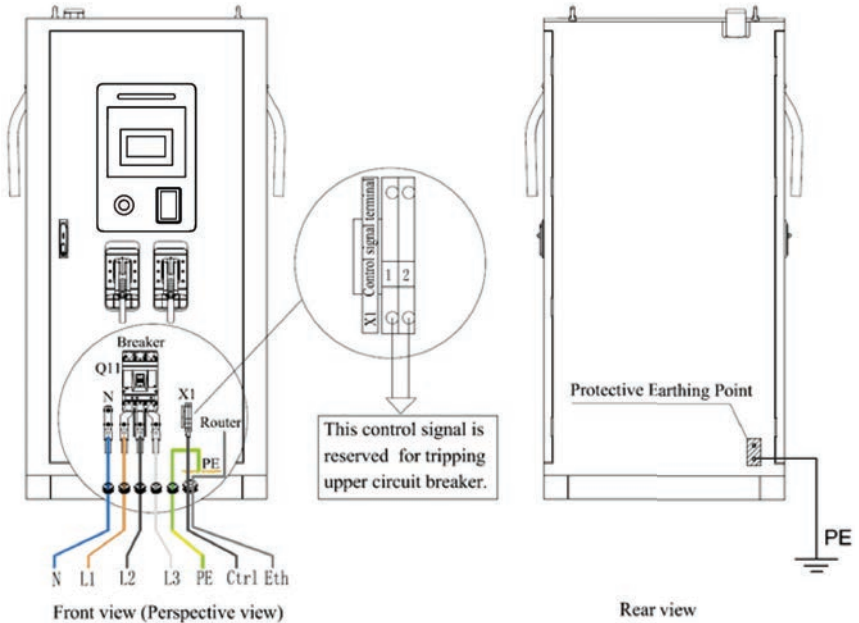

Figure 8 Internal Wiring
2. Space should be reserved around. See **Figure 8**.